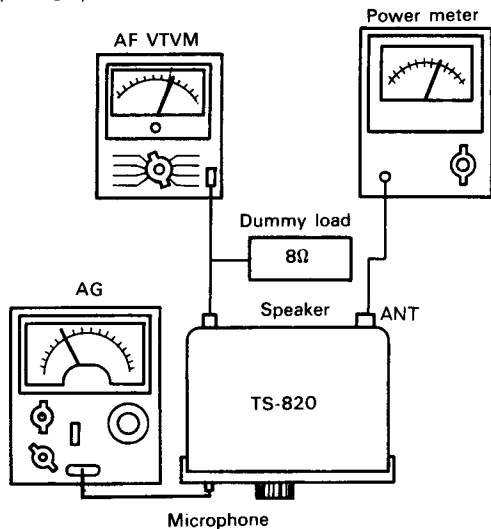

Fig. 38 Adjustment of monitor level
- 1) If Fig. 38, make adjustment until full power is obtained at 14.175 MHz, CW, and set the MODE switch to SSB $\bar{e}$  (or LSB).